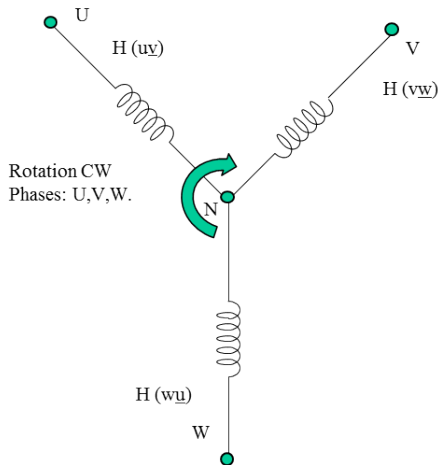
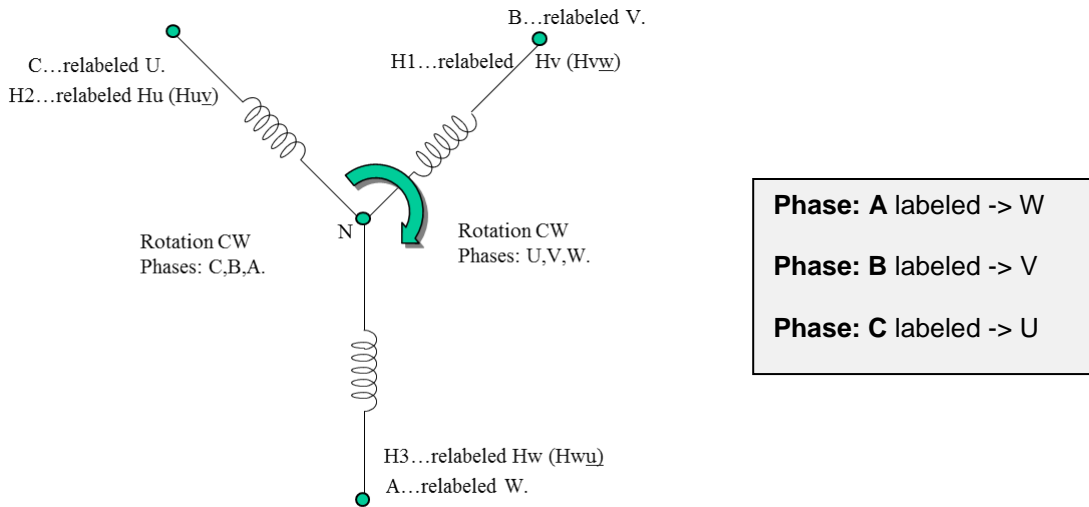

Figure 2a: Looking into the torque endbell (shaft) of the motor
Figure 4: Looking into the torque endbell (shaft) of the motor
- Motor phasing connections for any positive drive command (*torque, velocity or position*) are per **Figure 2a** above.
Condition I: Motor provided by manufacturer has Bemf phasing and Halls defined per **Figure 2a** above, and user desired positive direction is the same as the motor: CW looking into the torque endbell of the motor. *Reminder, this is CCW looking into the lead exit end of the motor.*
Condition III: Motor provided by manufacturer has Bemf phasing and Halls defined per **Figure 2b on Page 3** (CW viewed looking into the lead exit end of the motor). However the user's desired positive direction is the same per **Figure 2a on Page 3** (CW as viewed looking into the torque endbell of the motor) and our assumed drive convention.
In this case, the user's reference convention and desired direction of rotation are opposite. It is therefore best to re-label the Hall and motor phase wires / connections to present the subject per **Figure 2b motor on Page 3** (CW rotation viewed from the lead exit end), with the same reference convention of **Figure 2a motor on Page 3** (viewed looking into the torque endbell). In contrast, the **Figure 3 motor above** is presented with the desired physical reference looking into the torque endbell, but still shown with the opposite direction of rotation.
We will do this by simply bringing back the Bemf phase reference of each Hall signal, then flip direction by switching **Hall subscripts noted on Page 2**. Next, we substitute Hall subscripts: w for a, v for b, and u for c to match this white paper's convention per **Figure 2a on Page 2**.
Once Hall signal and motor phase re-labeling is complete, we will have the equivalent labeling per **Figure 2a on Page 2** and as shown per **Figure 4 below**.